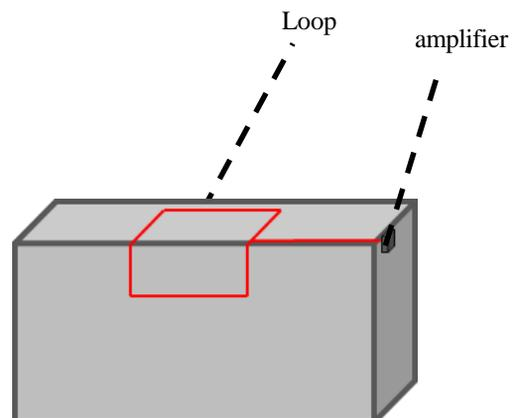

Figure 1.
**1.** Place the loop on the vertical and horizontal portion of the counter as shown in figure 1. This type of installation ensures better coverage in front of the counter.